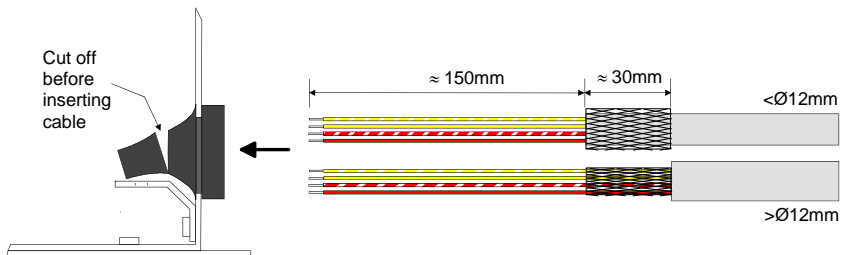

Figure 3 : Cables with insulation removed
1. Remove insulation from the cable as shown in Figure 3.
4. Use a sharp knife to remove the end of the grommet (see Figure 3).